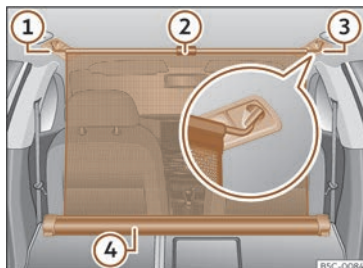

Fig. 184 In the boot: net partition hooked into the rear seat backrests.
- Pull up handle >>> **Fig. 184 ②** to remove the net from the casing >>> **④**.
- Hook in the net partition on the right or left side >>> **Fig. 184 ③** (magnified image).
- Hook in the net partition into the housing on the other side >>> **Fig. 184 ①** by pulling the rod.
The net partition is properly assembled when the T-shaped ends are firmly secured in the corresponding housings >>> **Fig. 184 ③** and **①**.
- Roll up the net into the casing >>> **Fig. 184 ④** lowering it with your hand.